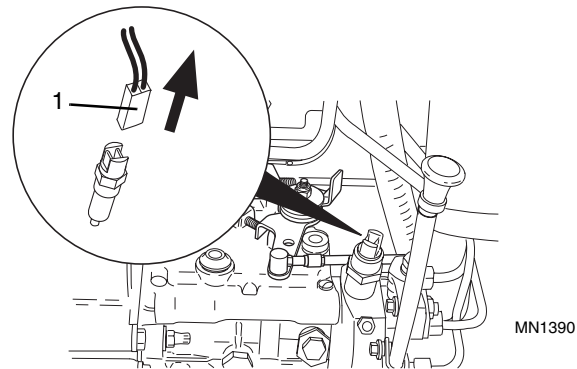

Figure 5-2 Fuel Run Solenoid Connector
3. Disconnect the Fuel Run solenoid connector (Fig. 5-2, 1) and turn the engine over with the starter at 15 second intervals until you get a pressure reading of at least 75 psi (5,18 bar), or a minimum of three 15 second intervals if not checking with a gauge. This permits the implement pump to draw oil from the reservoir, ensuring the system is full before starting engine and operating the hydraulic functions. Reconnect the wire.